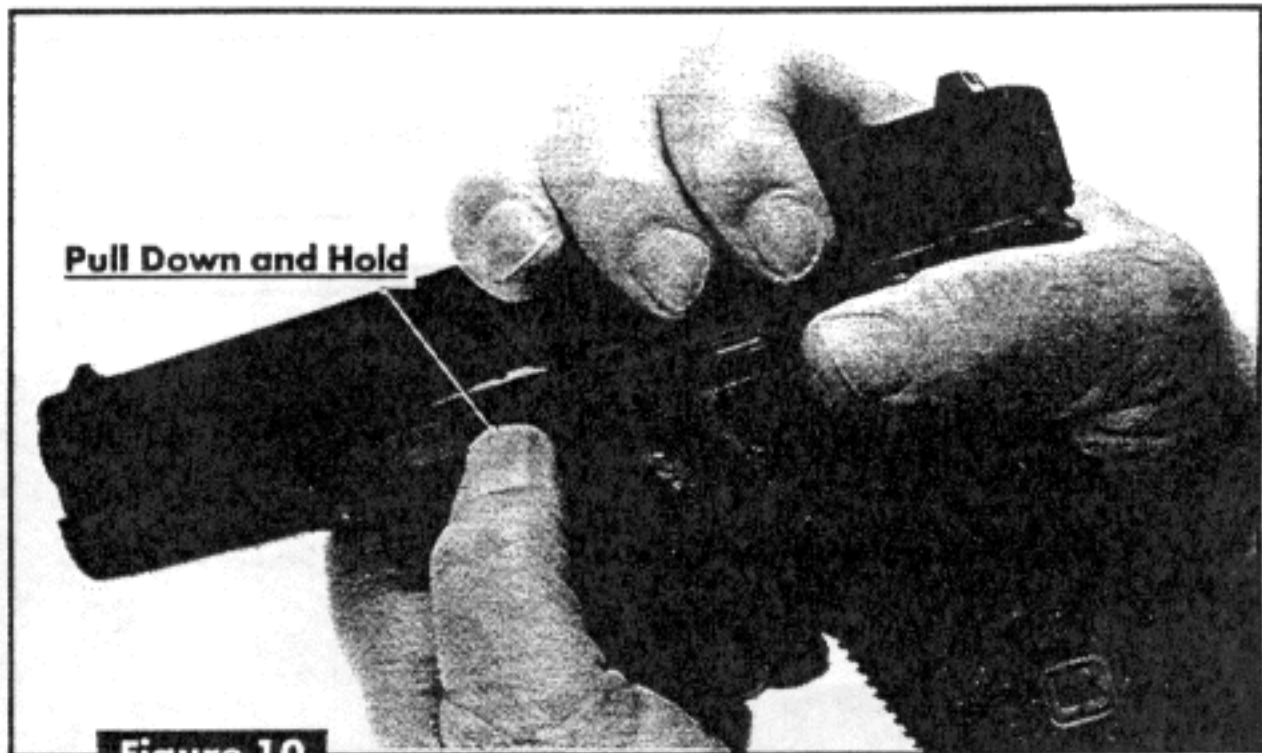

Figure 10
- Simultaneously, pull down and hold both sides of the slide lock using the thumb and index finger of your free hand (Figure 10).